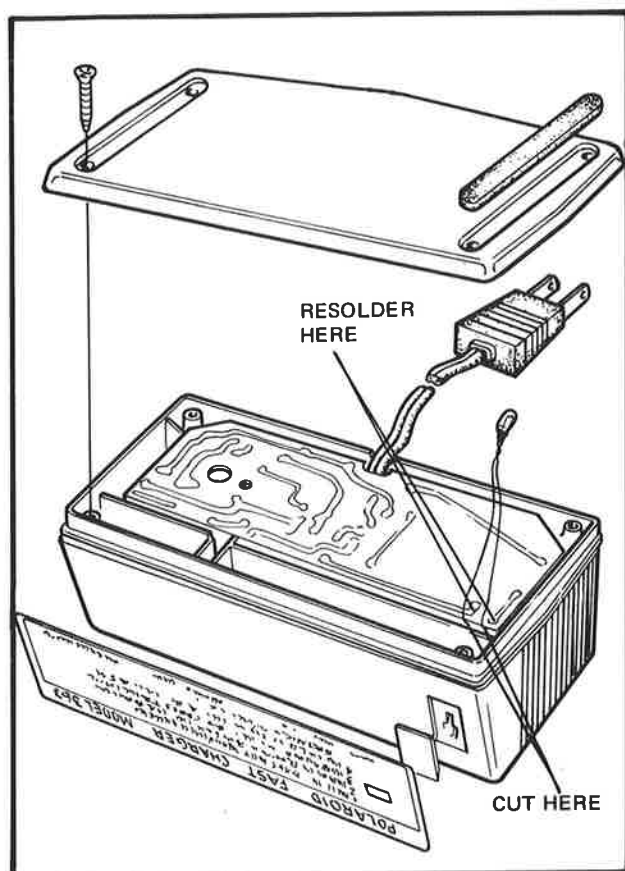

FIG. 4-1 REPLACING THE CHARGER LAMP
- Peel the two foam rubber pads off the bottom of the charger (Figure 4-1).
- Cut the leads at the points shown in Figure 4-1.
- Solder the leads of a new lamp to the solder connections shown in Figure 4-1.